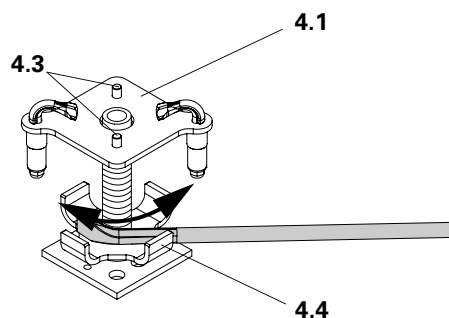

Fig. A2.14
- When under load, the rotary wing can be turned by means of a nail puller. (Fig. A2.14)